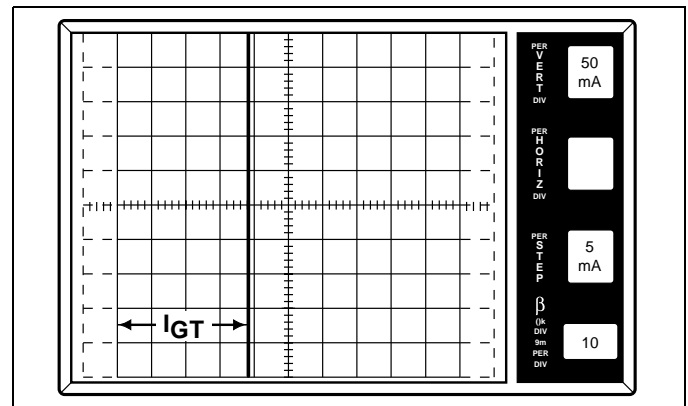

Figure 19.12  $I_{GT}$  in QI is 18.8mA
- Gradually increase *Offset Multiplier* until device reaches conduction point. (See Figure 19.12.) Measure  $I_{GT}$  by following horizontal axis to the point where the vertical line passes through the axis. This measured value will be  $I_{GT}$ .